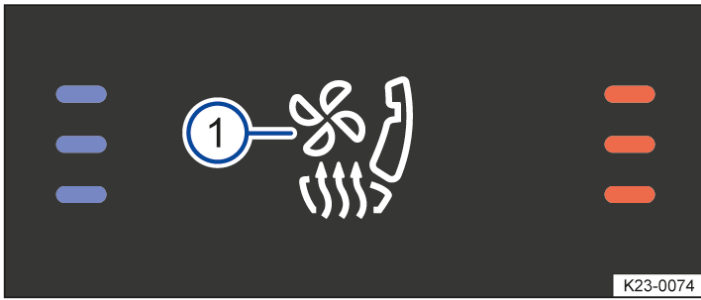

Fig. 1 In the Infotainment system: seat ventilation, seat settings and seat heating.
1. To open the Seats menu, tap function button → Fig. 1 ① on the driver or front passenger side.